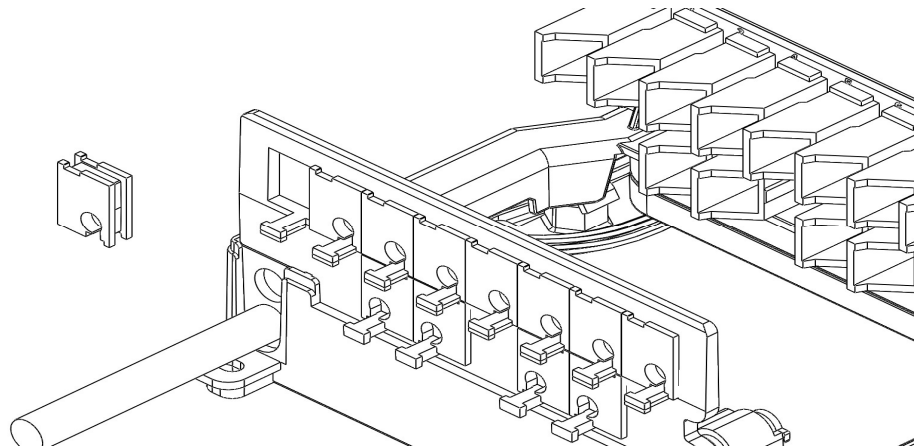

Fig.27
- 4.6.2. Remove a drop cable grommet from the front plate at the position where you want to install the connectorized cable (Fig . 27);